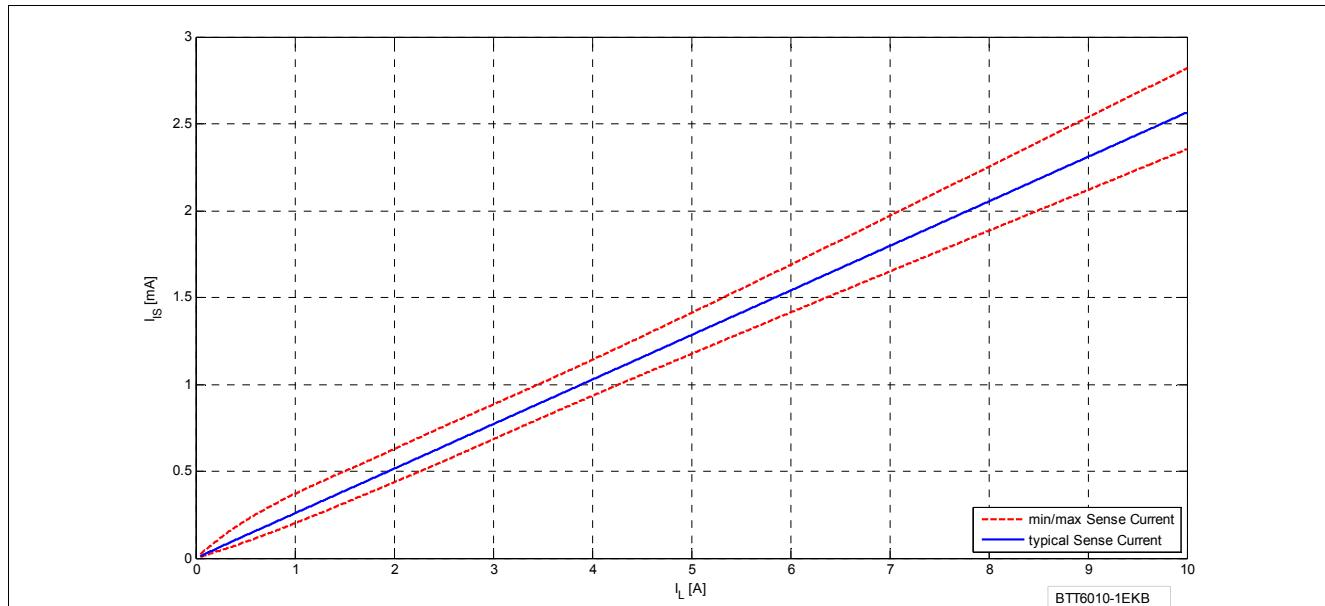
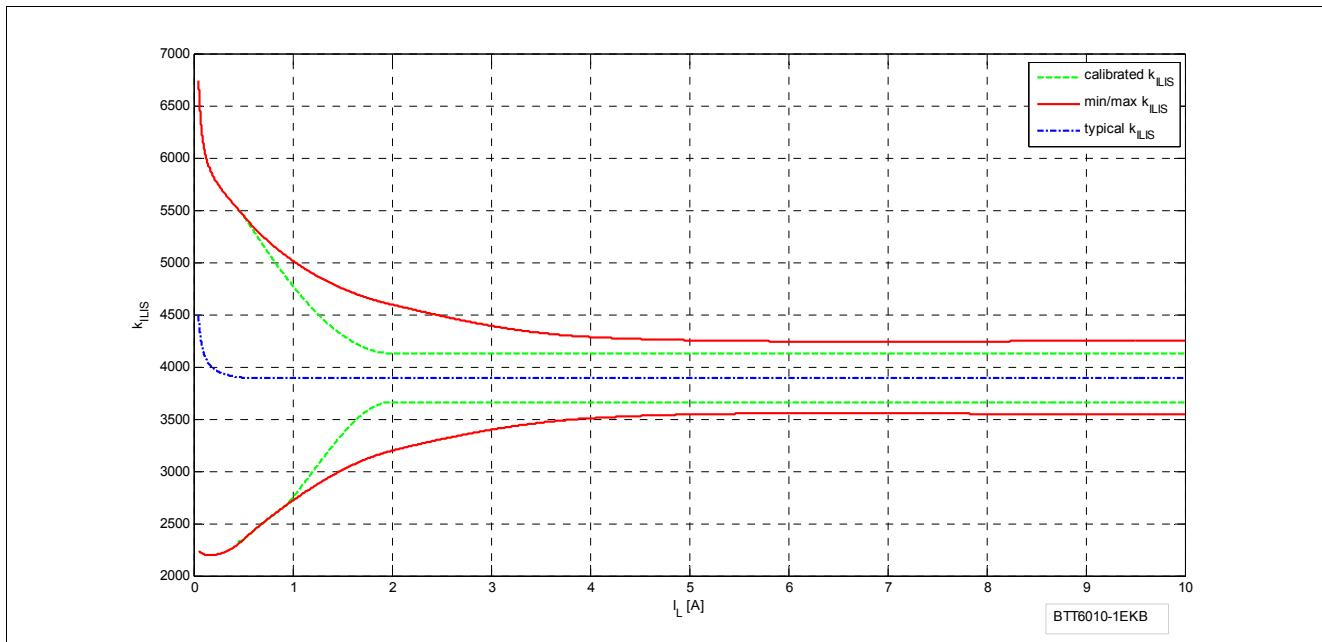

Figure 21 Current Sense for Nominal Load
Figure 22 Improved Current Sense Accuracy with One Calibration
**Figure 21** and **Figure 22** show the current sense as a function of the load current in the power DMOS. Usually, a pull-down resistor  $R_{IS}$  is connected to the current sense IS pin. This resistor has to be higher than  $560\ \Omega$  to limit the power losses in the sense circuitry. A typical value is  $1.2\ k\Omega$ . The blue curve represents the ideal sense current, assuming an ideal  $k_{ILIS}$  factor value. The red curves show the accuracy the device provide across full temperature range, at a defined current.
In some applications a better accuracy is required around half the nominal current  $I_{L(NOM)}$ . To achieve this accuracy requirement, a calibration on the application is possible. To avoid multiple calibration points at different load and temperature conditions, the BTT6010-1EKB allows limited derating of the  $k_{ILIS}$  value, at a given point ( $I_{L3}$ ;  $T_J = +25\text{ }^\circ\text{C}$ ). This derating is described by the parameter  $\Delta k_{ILIS}$ . **Figure 22** shows the behavior of the sense current, assuming one calibration point at nominal load at  $+25\text{ }^\circ\text{C}$ .